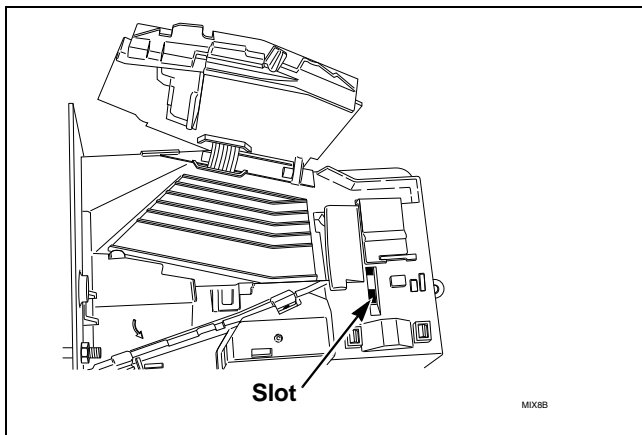

Figure 7
11. Place clip, installed on spring, in slot on coin drop. Refer to *Figure 7*.